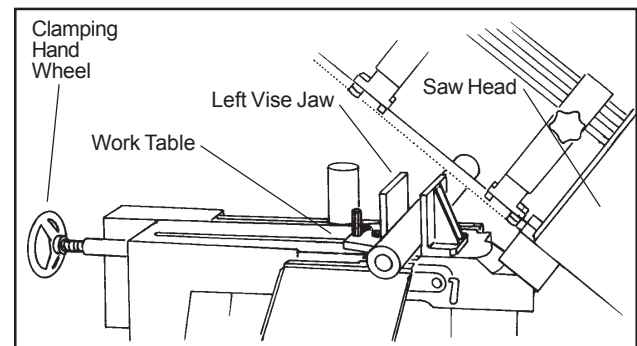
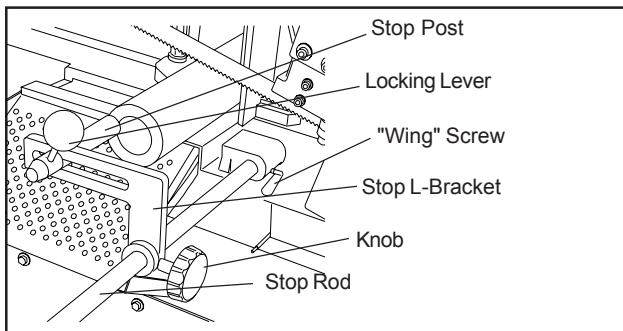

Figure 5: Securing workpiece
Figure 8: Work stop
1. Raise the saw head (refer to Figure 5).
Figure 5: Securing workpieceThe work stop is used to set up the saw for making multiple cuts of the same length (see figure 8). Install and adjust the work stop as follows: